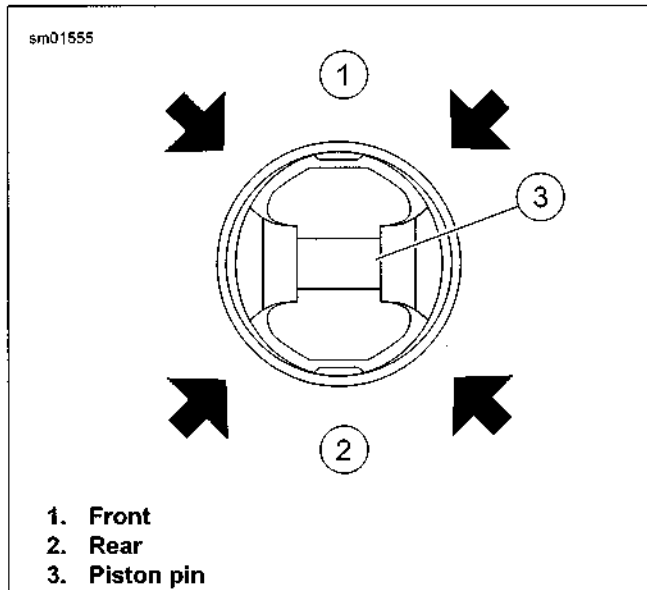

Figure 3-56. Position Ring End Gaps at Arrows
5. See Figure 3-56. Position rings so end gaps of adjacent rings are a minimum of 90 degrees apart. Ring gaps are not to be within 10 degrees of the thrust face centerline.